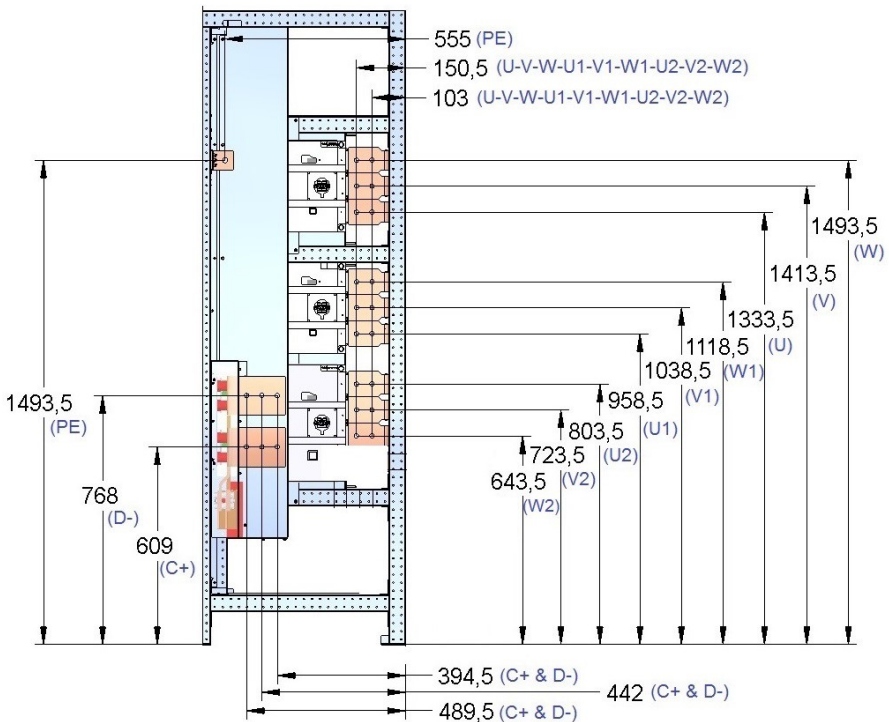
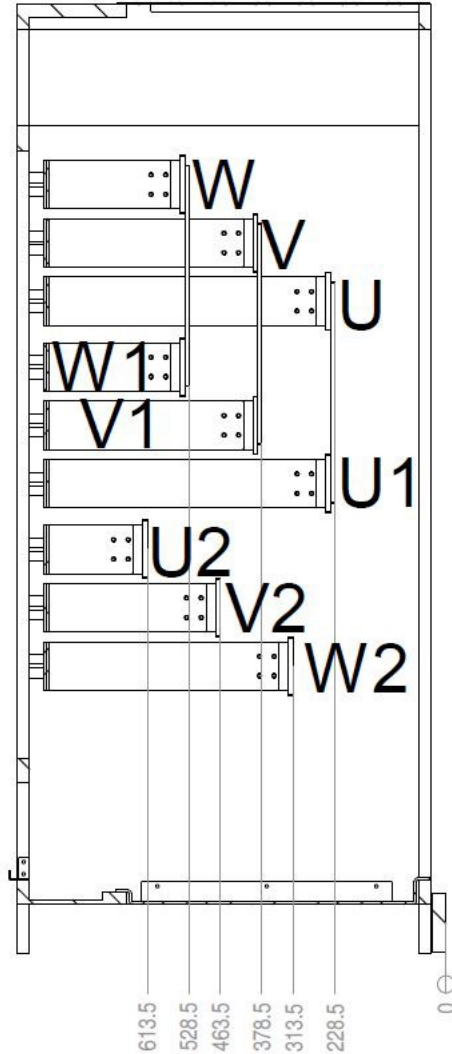
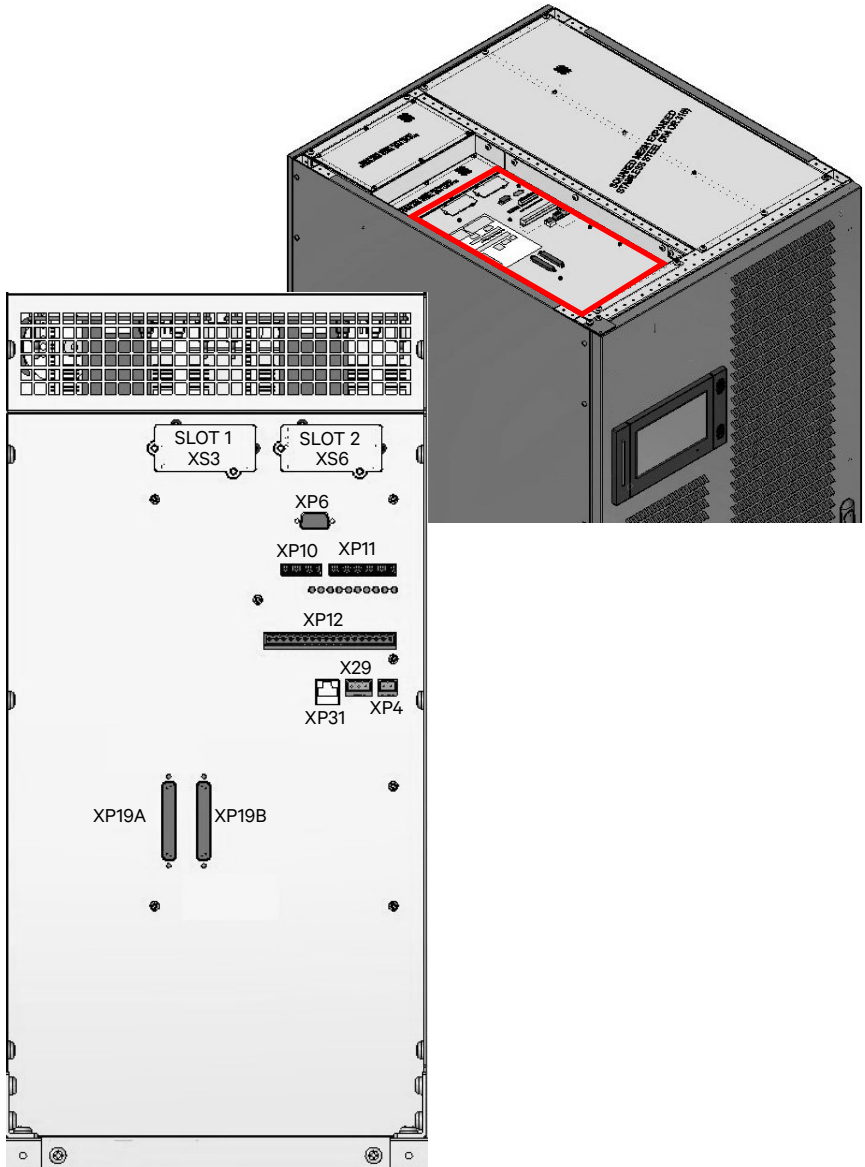

Figure 15 - Liebert EXL S1 800kVA
Figure 20 - Liebert EXL S1 1000/1200kVA
Figure 23 - Customer connectivity panel
To access the external electrical connections, open the front door of the UPS and remove the secondary access panel (see Fig. 15-Fig. 20). Connect the ground cable (PE) first at .
The power connections (see Fig. 15-Fig. 20) on the front of the UPS are:
- The battery cabinet should be installed adjacent to the UPS (see Fig. 15-Fig. 20 for the position of the input battery connections inside the UPS).
- Make the ground connections (PE).
- Connect the battery area temperature sensor to connector XP4 in the connectivity panel (Fig. 23).
For details about XP4 position, see Fig. 23.
The customer connectivity panel is placed as shown in Fig. 23.